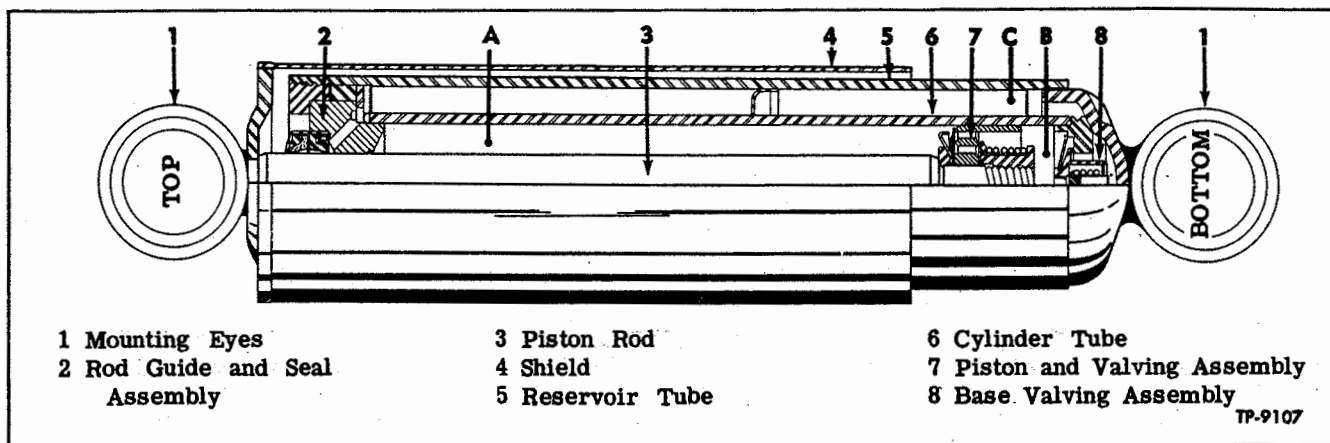

Figure 25—Sectional View of Shock Absorber
Shock absorbers used at front and rear axles are double-acting aircraft type. The principal components of the shock absorber, illustrated in figure 25 are: Piston and valving assembly (7), piston rod (3), guide rod and seal assembly (2),
Starting with the shock absorber in closed position as illustrated in figure 25, the control of the opening or "rebound" stroke is as follows: As the piston assembly (7) travels upward, the fluid is compressed in the top portion (A) of the cylinder tube (6) and is forced through orifices in the piston and the rebound control valving located in the bottom of the piston. To replace fluid displaced by the piston rod (3) when in closed position, fluid is drawn from the reservoir section (C) in the reservoir tube (5) through the intake valve section of the base valve (8) into the lower portion (B) of the cylinder tube (6).